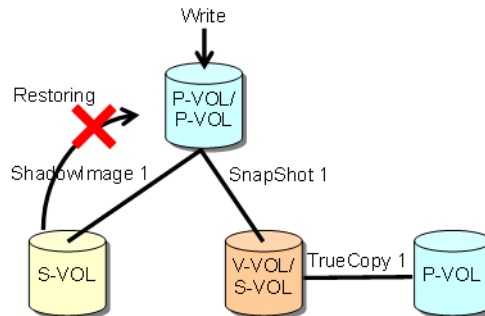

Figure 1-13: Cascade restrictions of TrueCopy S-VOL with Snapshot V-VOL
- Cascade restrictions of TrueCopy S-VOL with Snapshot V-Vol.** In the configuration in which the P-VOL of ShadowImage and the P-VOL of Snapshot are cascaded as shown in Figure 1-13, and at the same time, in the configuration in which the V-VOL of Snapshot and the S-VOL of TrueCopy are cascaded, when the TrueCopy pair status is **Paired** or **Synchronizing**, ShadowImage cannot be restored. Change the TrueCopy pair status to **Split**, and then execute it again.